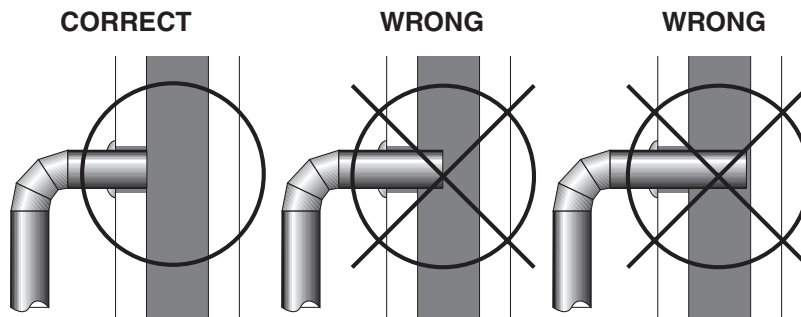

Fig.5 - Stovepipe/Flue Connections
4. The pipe cannot extend into the chimney flue (fig. 5).
6. It is recommended that no more than two (2) 90 degree bends be used in the stovepipe installation.